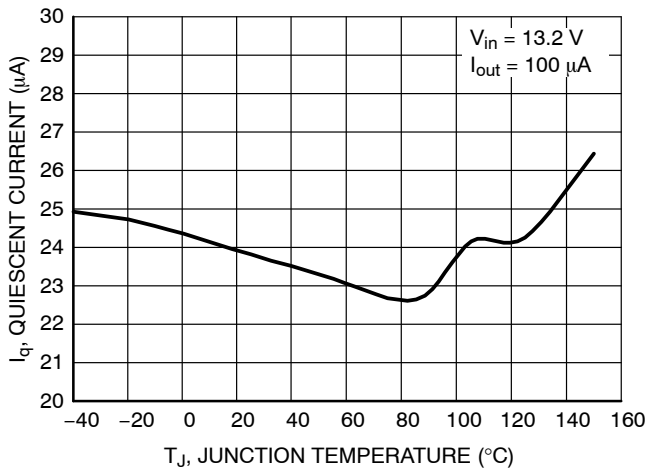
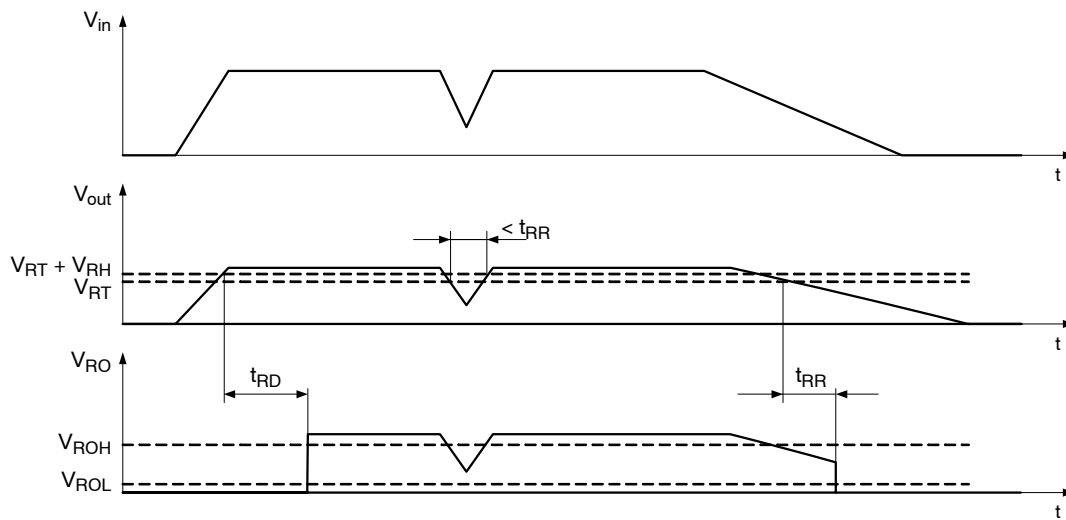

Figure 4. Quiescent Current vs. Temperature
Figure 33. Reset Function and Timing Diagram
The NCV8772 regulator is self-protected with internal thermal shutdown and internal current limit. Typical characteristics are shown in Figure 4 to Figure 33.
A reset signal is provided on the Reset Output (RO) pin to provide feedback to the microprocessor of an out of regulation condition. The timing diagram of reset function is shown in Figure 33. This is in the form of a logic signal on RO. Output voltage conditions below the RESET threshold cause RO to go low. The RO integrity is maintained down to  $V_{out} = 1.0$  V. For 5 V voltage option, the Reset Output (RO) circuitry includes internal pull-up (30 k $\Omega$ ) connected to the output ( $V_{out}$ ). No external pull-up is necessary.